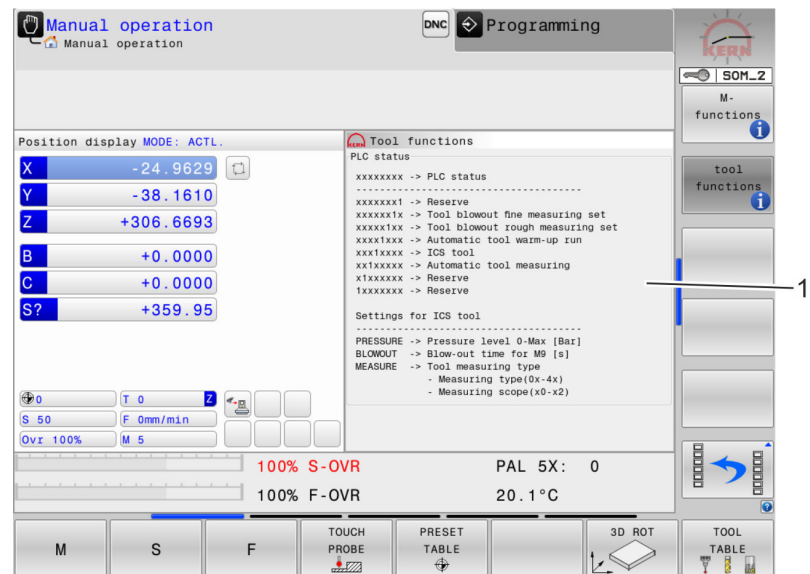

Fig. 56: Help window of the tool functions
5. ➔ For details about the described tool functions, press the [tool functions] softkeys (Fig. 56/1).
- ⇒ A pop-up window (Fig. 56/2) opens with descriptions of the tool-specific information.